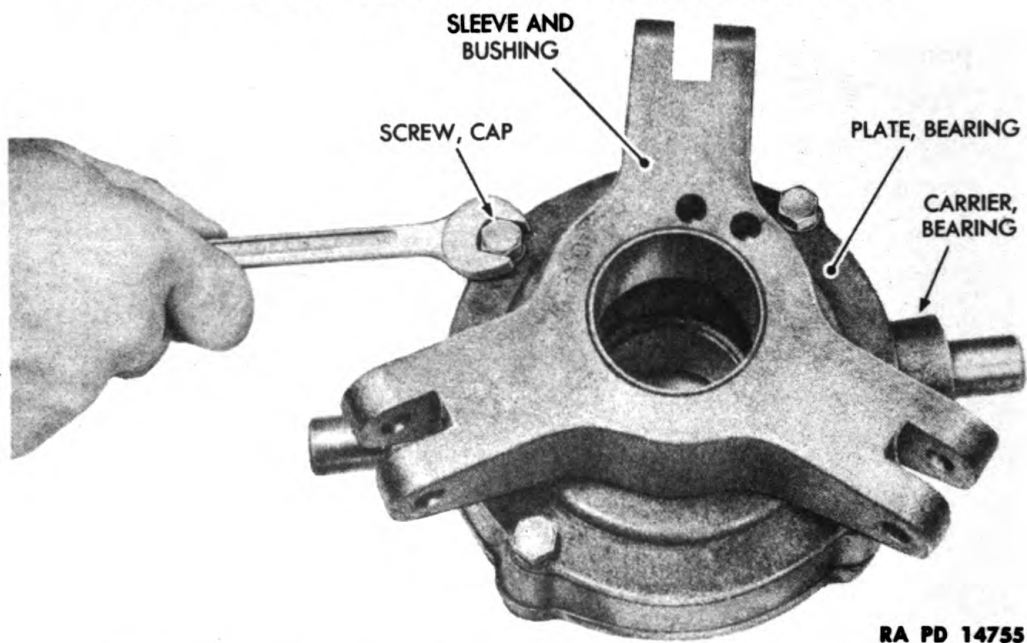

Figure 24 — Bearing Carrier Removal from Bearing Plate
(12) REMOVE BEARING CARRIER FROM BEARING PLATE (fig. 24).
(8) INSTALL BEARING CARRIER (fig. 24).